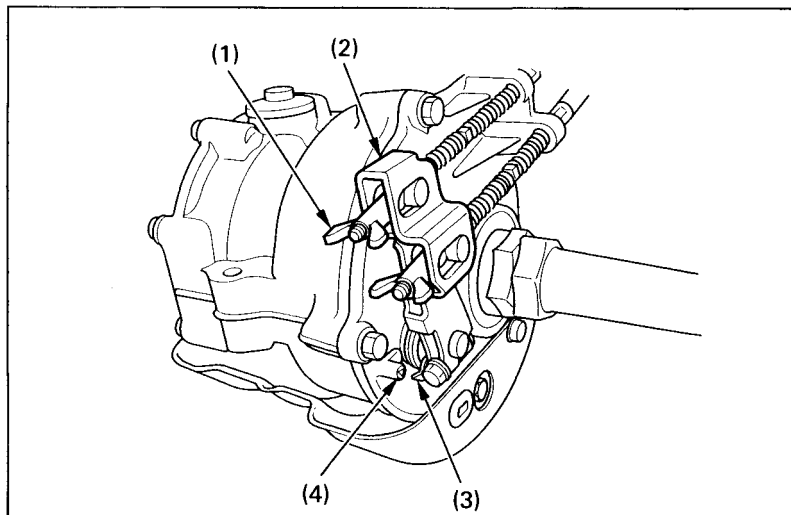

Fig. 4-27 (1) Brake lever adjusting nut
When the brake is applied, an arrow (3) attached to the brake arm (2) moves toward a reference mark (4) on the brake panel (see Fig. 4-27).